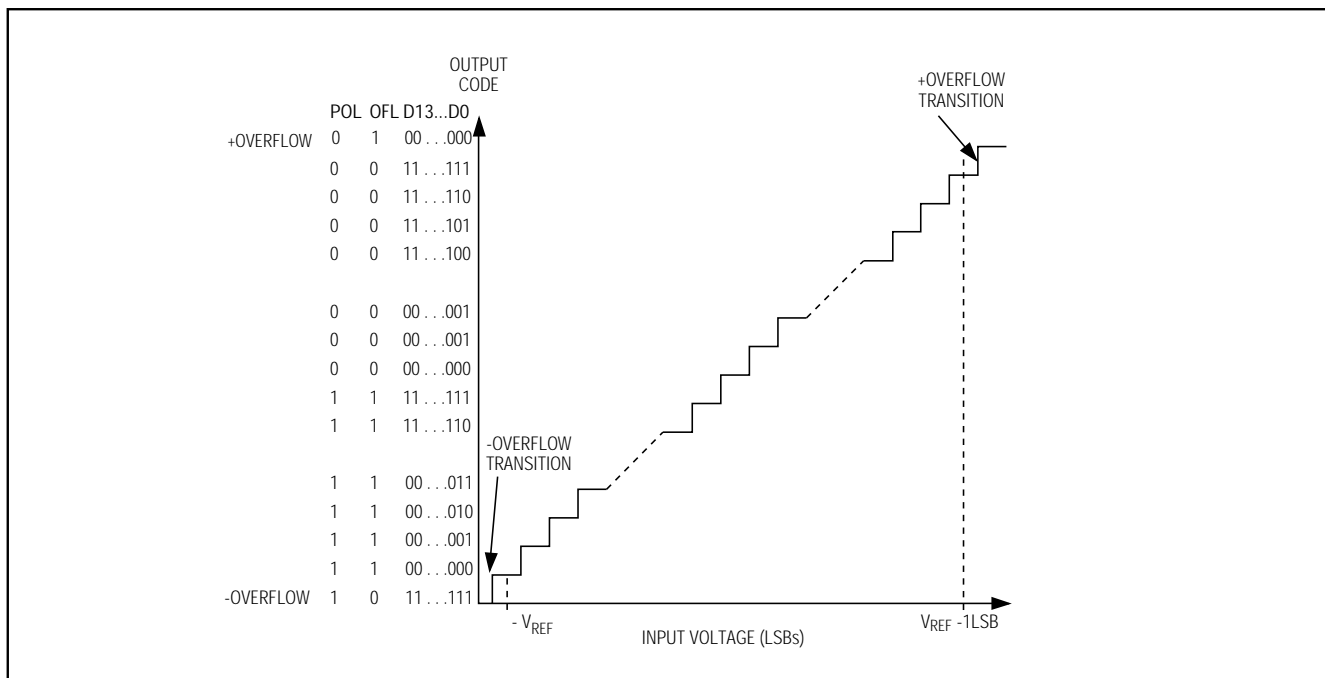
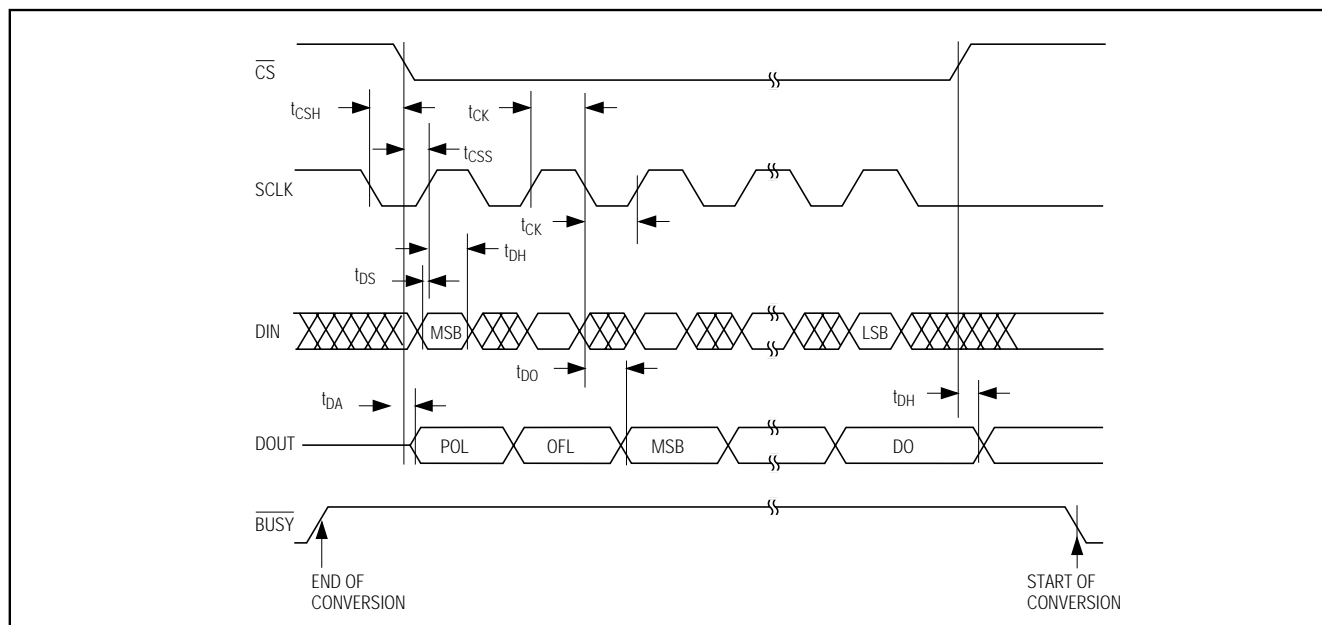

Figure 4. Differential Transfer Function
Figure 6. Detailed Serial-Interface Timing
The output data from the MAX110/MAX111 is arranged in twos-complement format (Figures 4, 5). The sign bit (POL) is shifted out first, followed by the overrange bit (OR), and the 14 data bits (MSB first) (see Figure 6). The MAX110 operates from  $\pm 5V$  power supplies and converts low-frequency analog signals in the  $\pm 3V$  range when using the maximum reference voltage of  $V_{REF} = 3V$  ( $V_{REF} = V_{REF+} - V_{REF-}$ ). Within the  $\pm 3V$  input range, greater accuracy is obtained within  $\pm 2.5V$  (see *Electrical Characteristics* for details). Note that a negative input voltage is defined as  $V_{IN-} > V_{IN+}$ . For the MAX110, the absolute voltage at any analog input pin must remain within the  $(V_{SS} + 2.25V)$  to  $(V_{DD} - 2.25V)$  range.
Data is transferred into and out of the serial I/O shift register by pulling  $\overline{CS}$  low and applying a serial clock at SCLK. This fully static shift register allows SCLK to range from DC to 2MHz. Output data from the ADC is clocked out on SCLK's falling edge and should be read on SCLK's rising edge. Input data to the ADC at DIN is clocked in on SCLK's rising edge. A new conversion begins when  $\overline{CS}$  returns high, provided the MSB in the input control word (NO-OP) is a 1 (see *Using the MAX110/MAX111 with MICROWIRE, SPI, and QSPI Serial Interfaces*). Figure 6 shows the detailed serial-interface timing diagram.